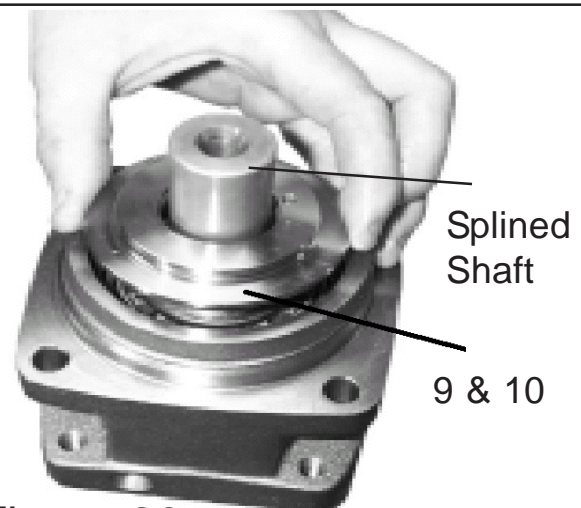

Figure 26
**9.** Install Seal and Seal Carrier. The Seal Carrier (item 9) has a shaft seal (item 10) that is installed into it. This needs to be installed before Seal carrier is installed into Bearing housing. (See Figure 26)